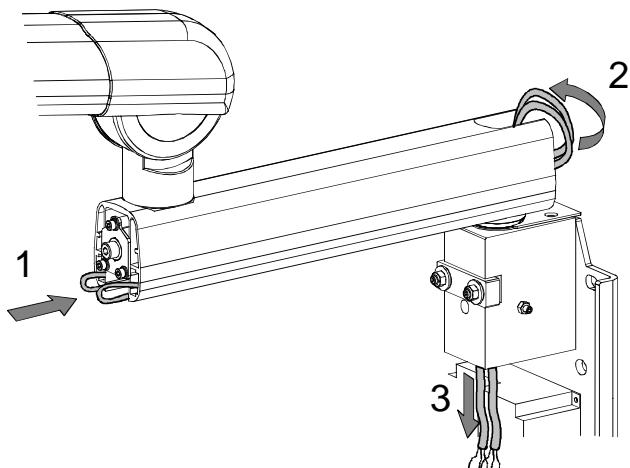

Figure 6-11
- 9.** Insert the cables inside the extension arm (power cable on one side and filament cable and the grounding cable on the other side) following the drawing in Figure 6-11 (fase **1**); this will make sure that the cables are not tensioned during use. To make this easier, wrap together the grounding and filament cables with tape.